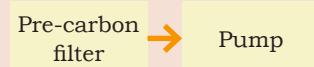

Fig. 5.44
4. Outlet of the pre-carbon is connected to the inlet of pump as shown in Fig. 5.44.